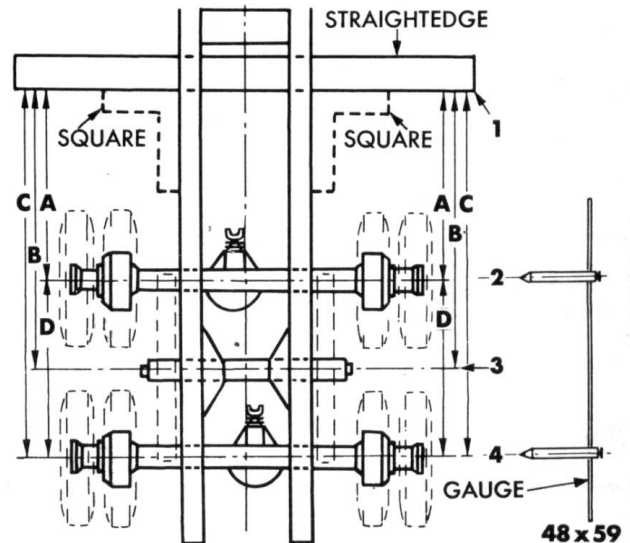

Fig. 133—Method for Checking Tandem Alignment (Typical View)
- (1) Place the vehicle on a level floor and inflate all tires to the proper pressure.
- (2) Attach a straight edge to the frame, as shown in Figure 133. Make certain that it is square with the frame.
- (3) Using a plumb bob and gauge, as shown in Figure 133, mark the floor at points 1, 2, 3 and 4. Repeat this operation on the opposite side of the vehicle. The difference in measurements between the two sides of the vehicle should not exceed "A" $\frac{1}{16}$ inch, "B" $\frac{1}{8}$ inch, "C" $\frac{1}{8}$ inch and "D" $\frac{1}{4}$ inch.